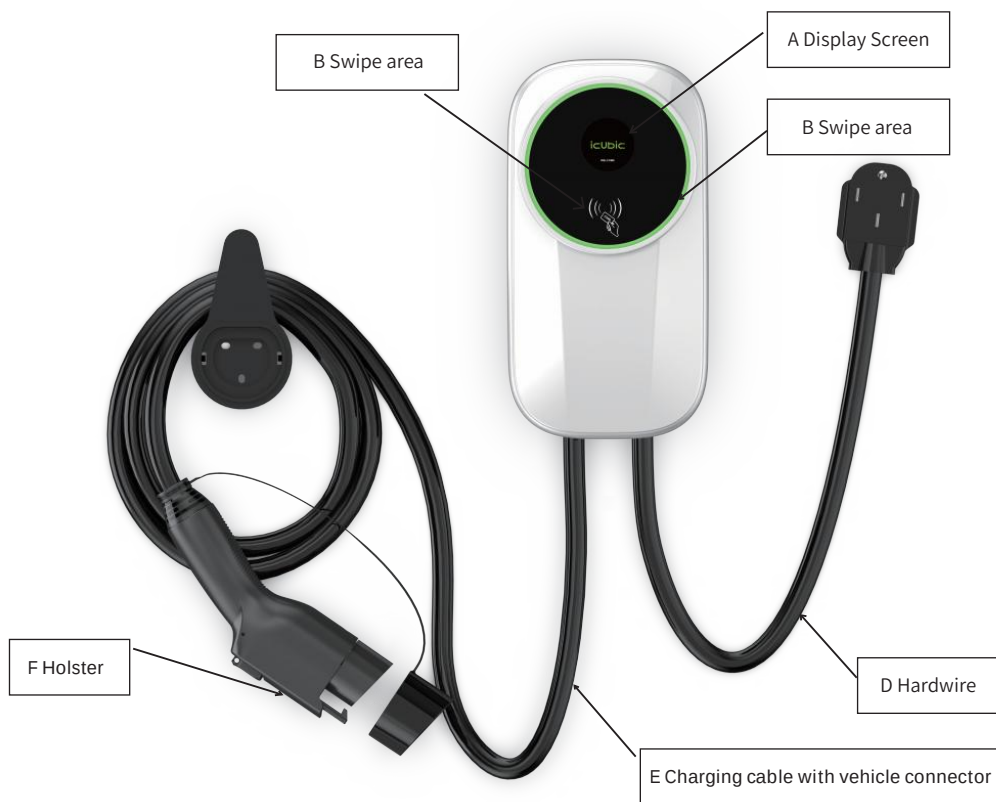

Figure 3.1 Wall-mounted Appearance
- (1) The vehicle has been parked where the vehicle connector can be easy inserted into the vehicle charging socket, which also means the charging cable(See Figure 3.1) is not taut.
- (2) When the display shows the "Connecting EV" interface, it means the charger is waiting for connection.